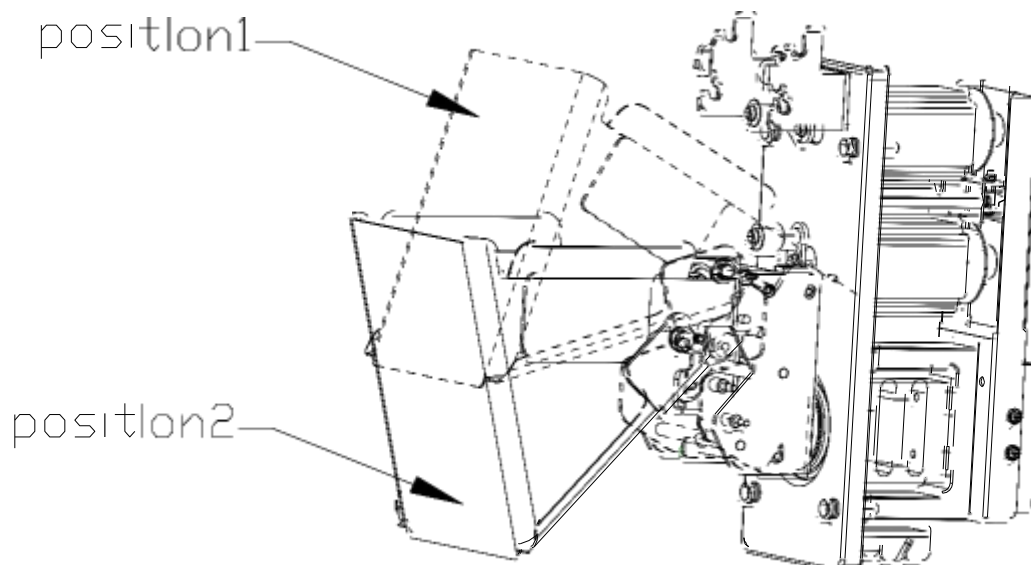

Fig. 3.3.2b
2. Allow the bottom of the bucket to swing down into its resting position, as shown in Fig. 3.3.2b.